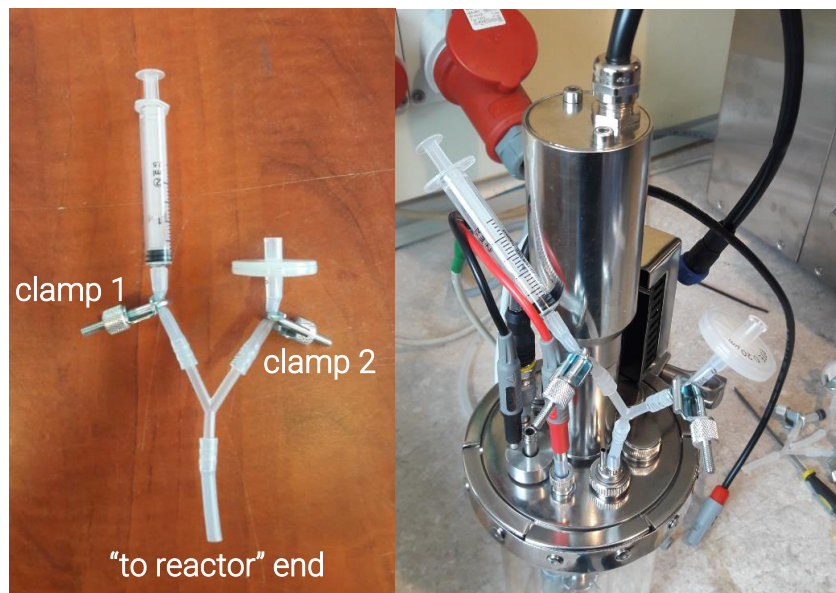

Figure 0.7. Sampler overview
- 1) The sampler (Figure 0.7, left side) **"to reactor"** end should be attached on the reactor's chemostat tube port (long tube immersed in culture);
- 2) Close the **clamp 2** and open **clamp 1** (Figure 0.7, left side);